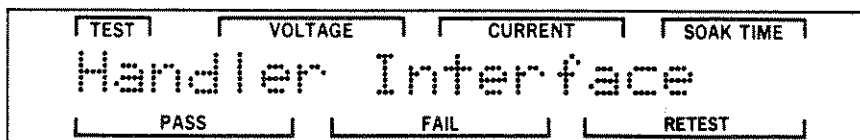

Figure 3-118. Handler Entry Screen
- STEP 1. With the instrument in the Configure mode, press the UP or DOWN pushbutton until the Handler Entry screen is displayed, as shown in Figure 3-118. For information on entering the Configure mode, refer to Entering the Configure Mode, Section 3.4.5.1.